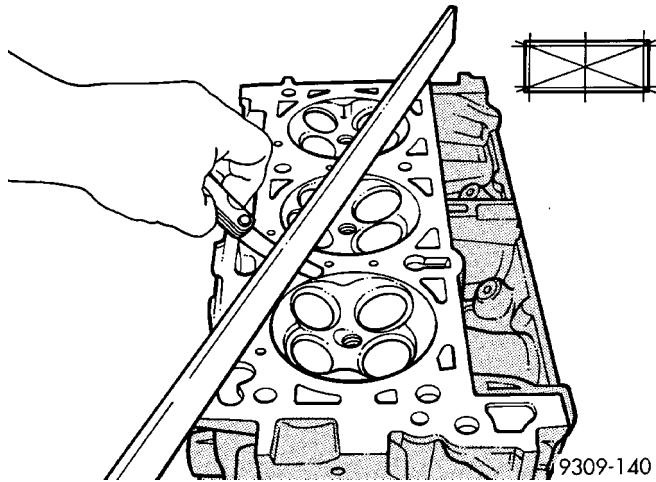

Fig. 12 Checking Cylinder Head Flatness
(1) Before cleaning, check for leaks, damage and cracks.
(2) Clean cylinder head and oil passages.
(3) Check cylinder head for flatness (Fig. 12).
(4) Cylinder head must be flat within: